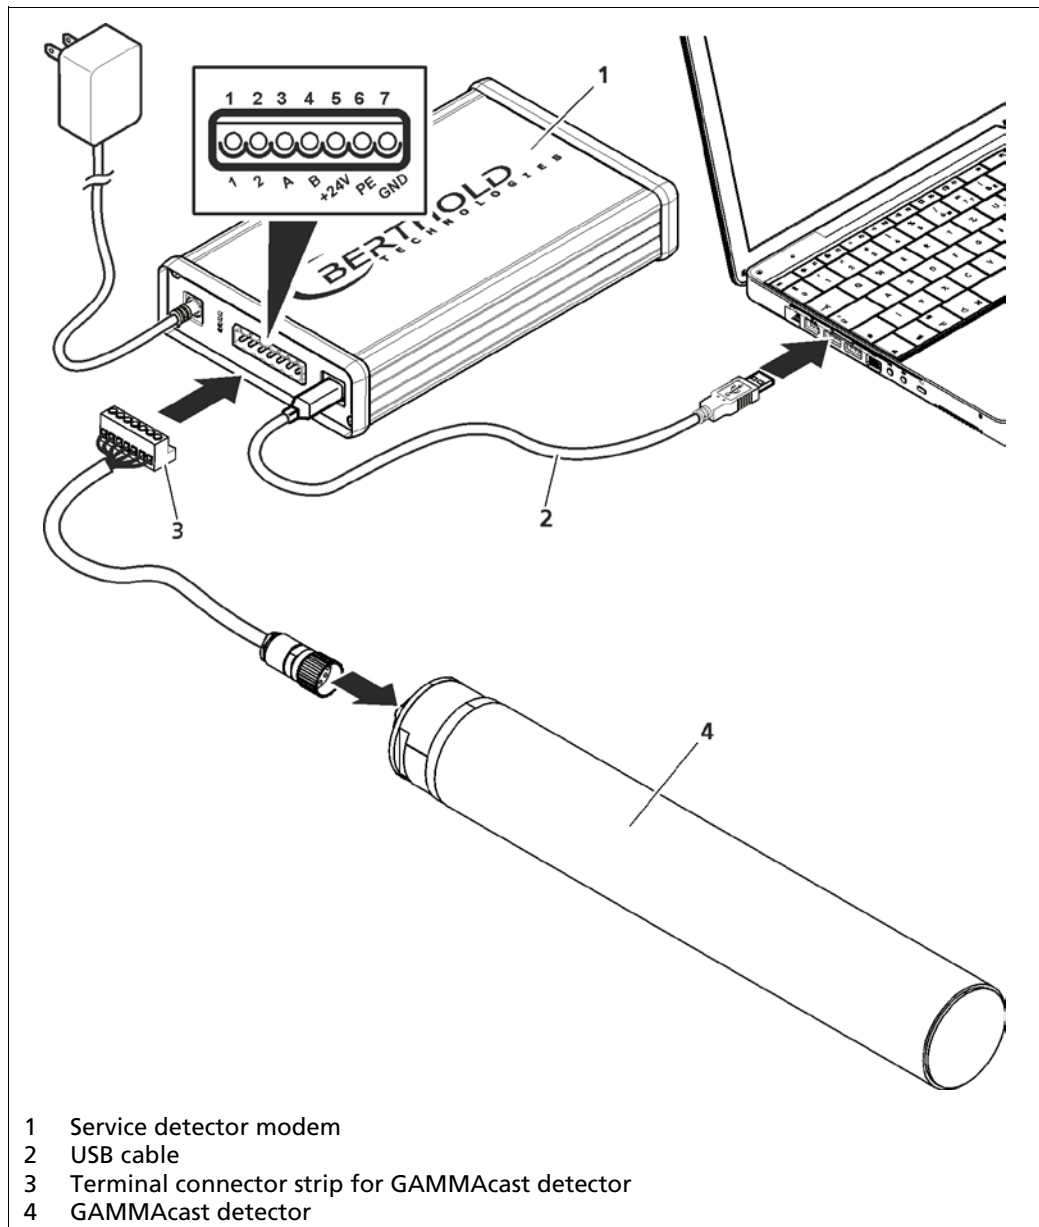

Fig.9 Detector service modem
1. Connect the GAMMAcast detector to the terminal strip (Fig.9, item 3) of the detector service modem (Fig.9, item 1).
2. Connect the detector service modem via the supplied USB cable (Fig.9, item 2) to a free USB port on your PC.